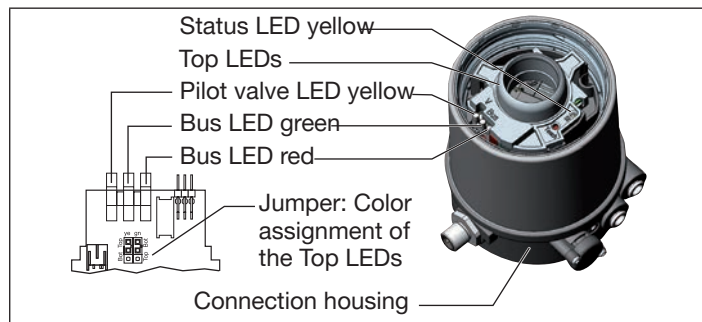

Fig. 21: Display elements AS-Interface
5) Color setting ex works. Can be set via jumper (see "Fig. 21").